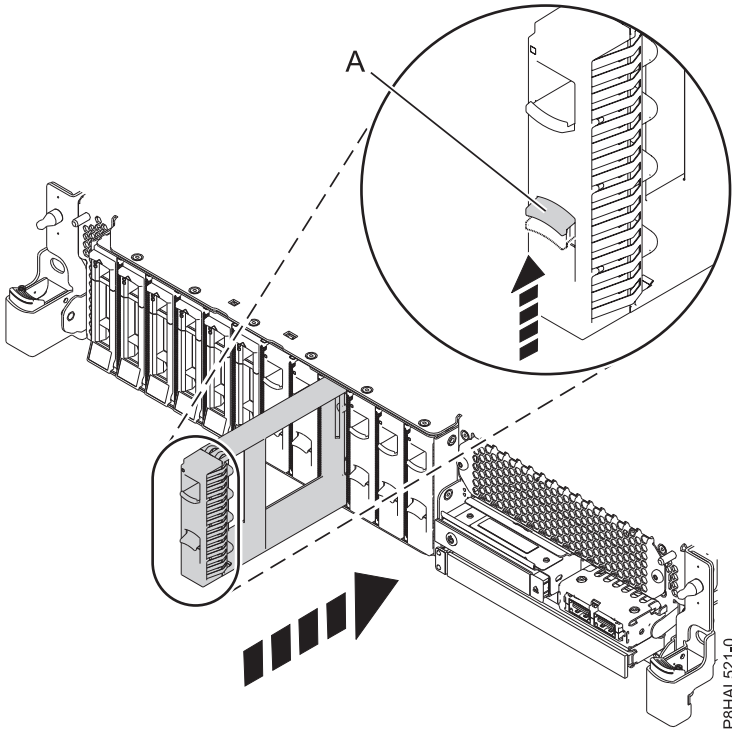
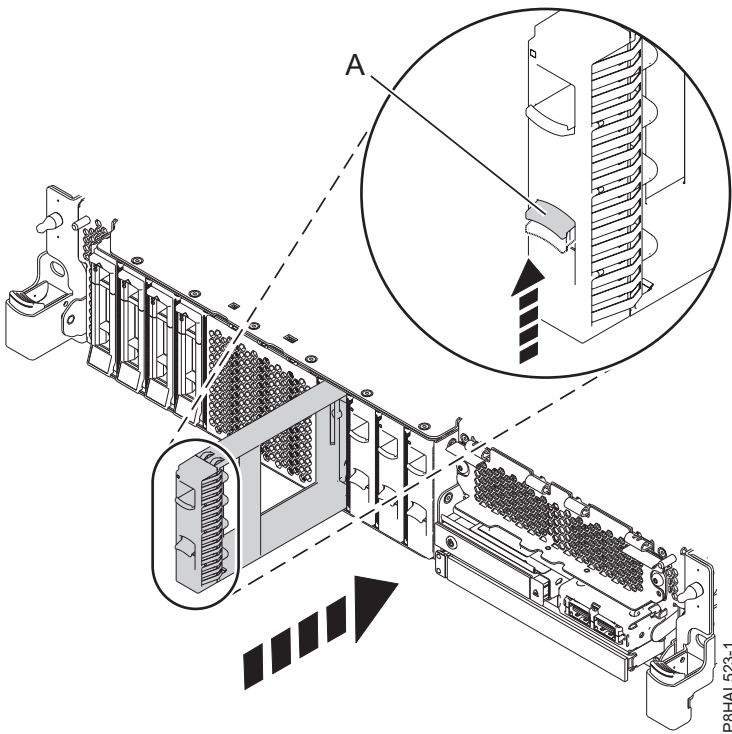

Figure 102. Installing a disk drive filler in a system
Figure 103. Installing a disk drive filler in an expanded function system
2. Align the disk drive filler with the drive slot and push the disk drive filler all the way into the system (A) until it locks, as shown in Figure 102 on page 100 and Figure 103 on page 100.